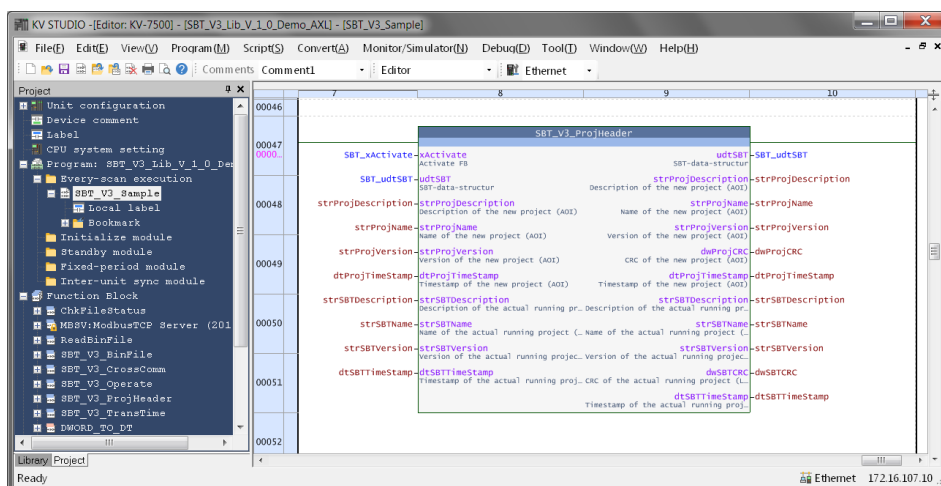

Figure 4-25 SBT_V3_ProjHeader function blocks
- Connect the function blocks as shown in Figure 4-25.